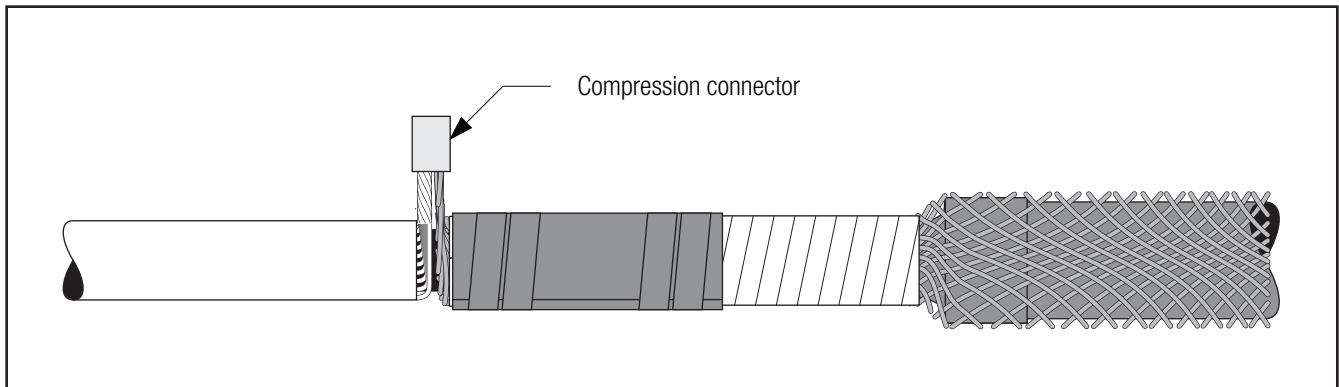

Figure 34
6.5.4 Keeping the connector as close as possible to the cable, connect shield sleeve and neutrals together, using a suitable compression connector. ("INLINE," "C," or "H" type). Crimp connector following the connector manufacturer's recommendation. Trim excess neutral wires and sleeve extending beyond the connector (*Figure 34*).